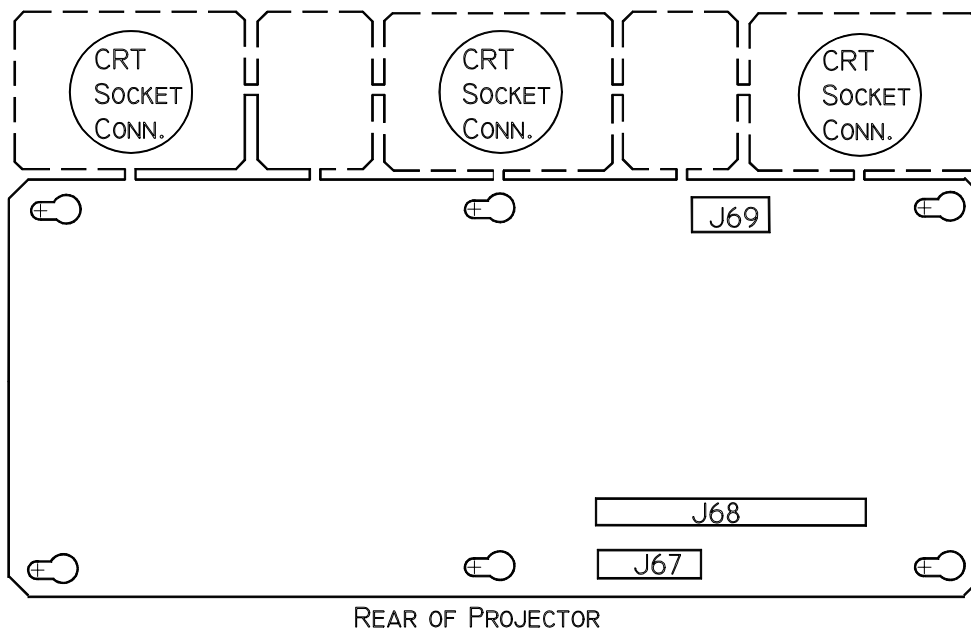

Figure 4-12. Video Amplifier PCB showing breakaway CRT Socket Connectors.
9. Disconnect the 3 connectors (push in slightly, squeeze the tabs, and pull out), J67, J68, and J69 from the Video Amplifier PCB (Figure 4-12). Move the cables out of the way.
13. Reinstall in the reverse order from above. **NOTE:** The Video Amplifier PCB is shipped with the 3 CRT Socket Connectors attached at the end in a "breakaway" arrangement (Figure 4-12). Use a pair of diagonal cutters and carefully cut the socket connectors away from the Video Amplifier PCB. The spacers between the CRT Socket Connectors can be discarded.